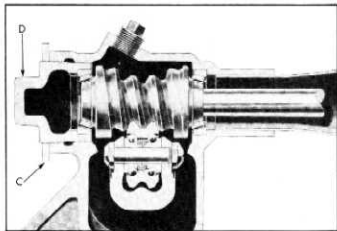

Fig. 5—Worm Bearing Adjustment Point
- To adjust the worm bearing, loosen lock nut "C" (fig. 5) and turn worm bearing adjusting cup "D" until there is no perceptible end play in worm. Check pull at wheel rim as
- Loosen the lock nut "C" (fig. 5) on the worm bearing adjuster cup and turn the adjuster cup "D" counterclockwise a few turns.